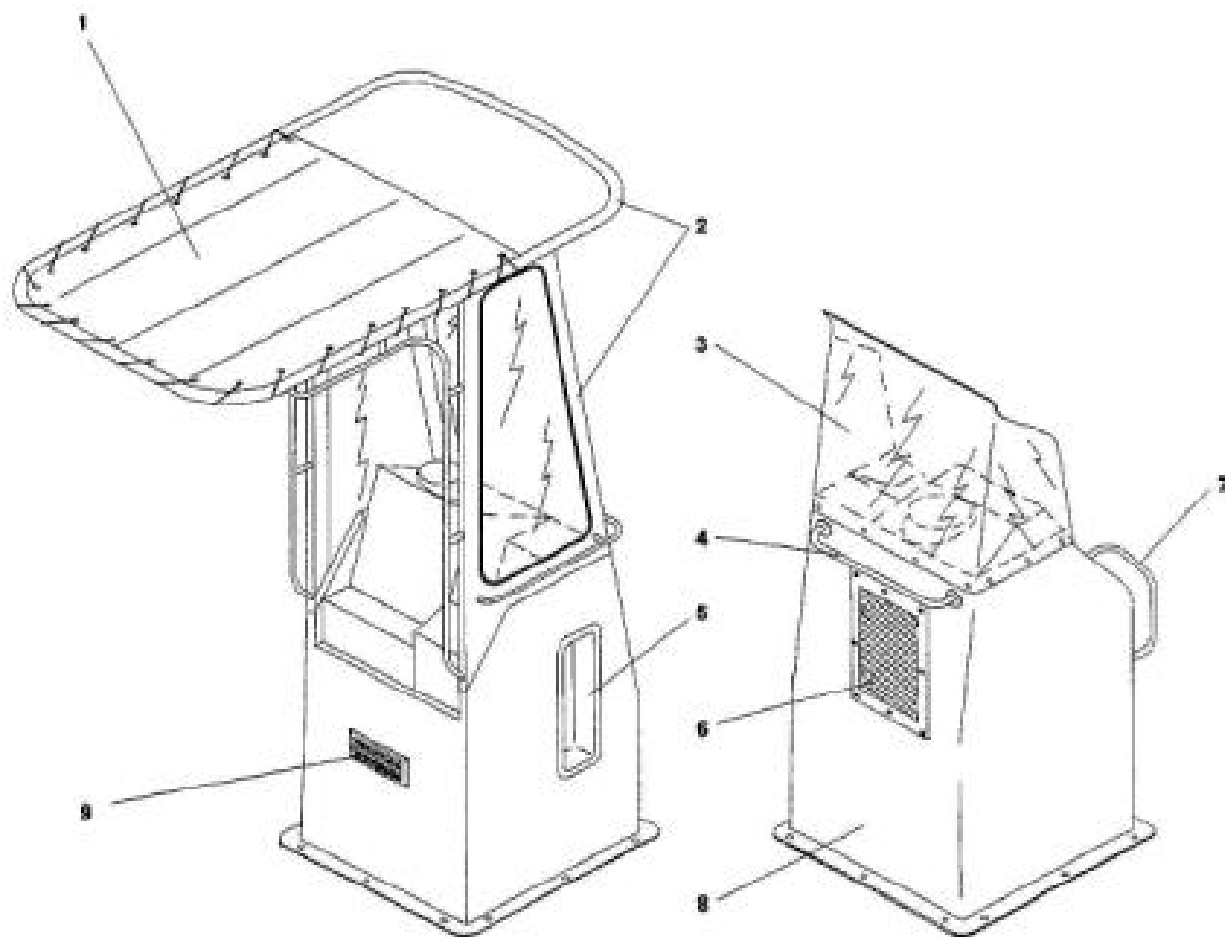

Figure 3-2-2 Patrol Console - Fibreglass (FRP)
2. FRP patrol console (see Figure 3-2-2).